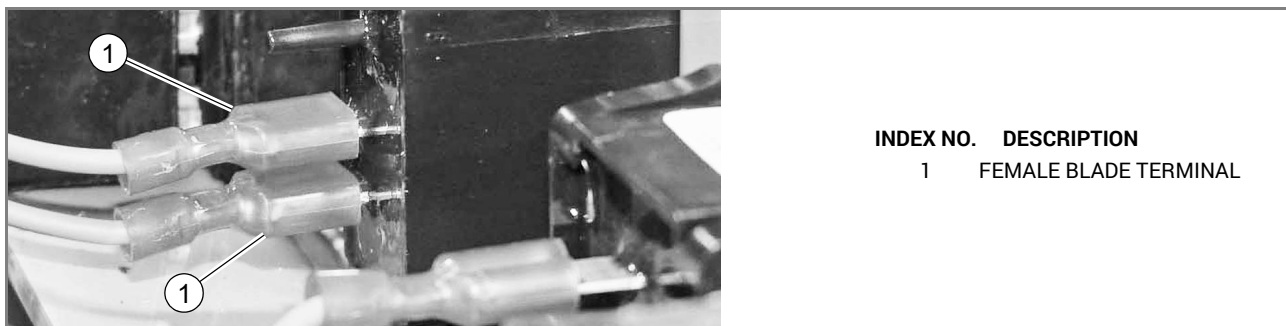

FIG. 9
14. In the control panel wiring area, locate the light harness and connect the two female blade terminals to the back of the light switch (polarity is not critical). FIG. 9